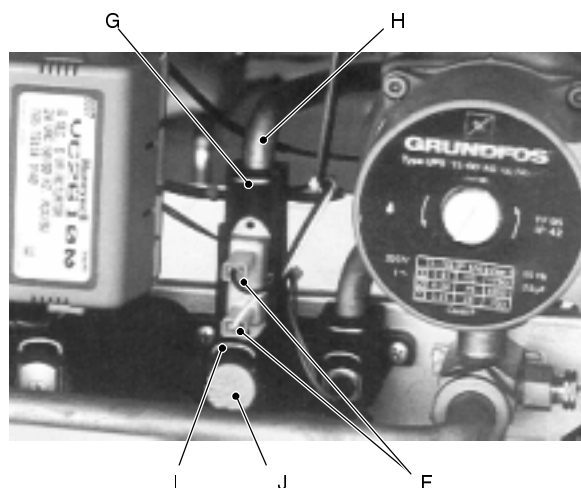

fig. 66
- 3 disconnect the connectors F and remove the fork G (fig. 66);
- 3 Remove fork G, the fork that holds the pipe H to the top plug of the d.h.w. heat exchanger (fig. 66) and remove the pipe in order to free the outlet hole of the flow switch.
- 3 Remove the fork *I* and remove the plug *J* (fig. 66).
- 3 Remove fork *G*, the fork that holds the pipe *H* to the top plug of the d.h.w. heat exchanger (fig. 66) and remove the pipe in order to free the outlet hole of the flow switch.